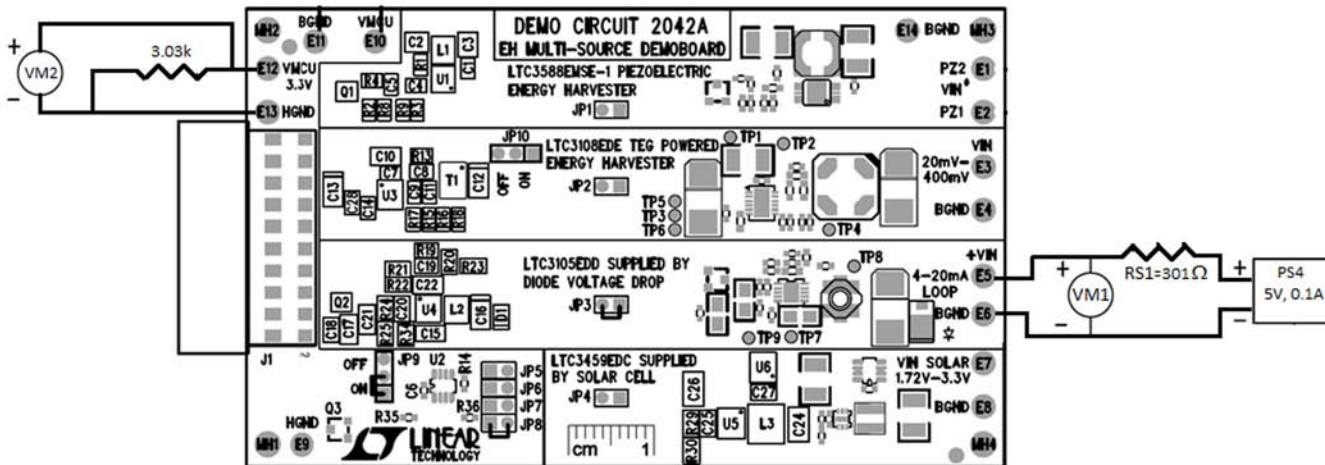

Figure 5. 4mA to 20mA Loop Circuitry Test Setup (Test Steps 14 to 17)
14. **MOVE JP1 to JP3.** Disconnect PS3 from the board and set PS4 equal to 5.0V. Reconfigure the test equipment as shown in Figure 5.